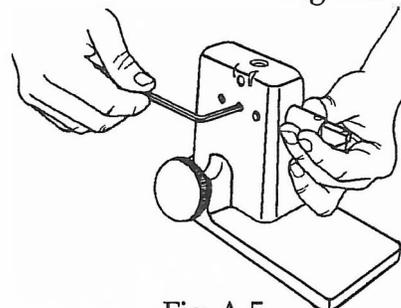

Fig. A-5
6. Use a 5/32" Allen wrench to tighten the middle setscrew (42), as shown in Fig. A-5, then loosen it 1/4 turn.